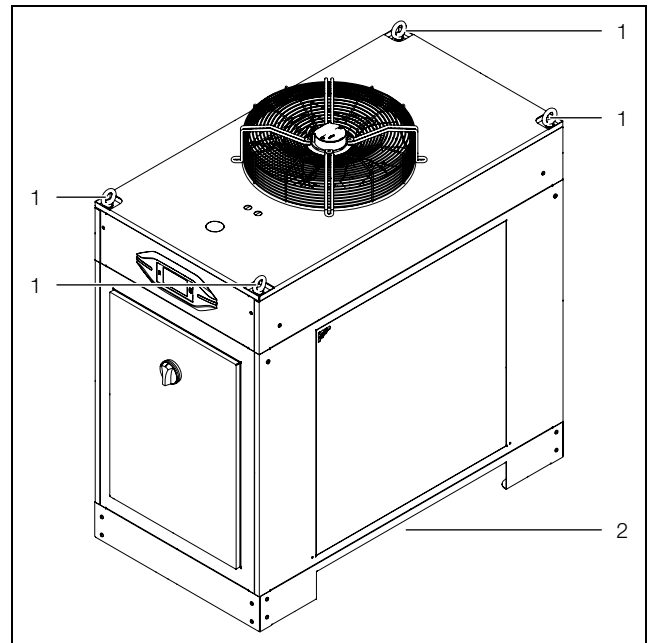

Fig. 15: Transport (illustration shows unit SK 333640x as an example)
- with lifting gear at the eyebolts provided for this purpose (fig. 15, item 1) or
- using a floor conveyor by holding from below and lifting from the side (fig. 15, item 2).